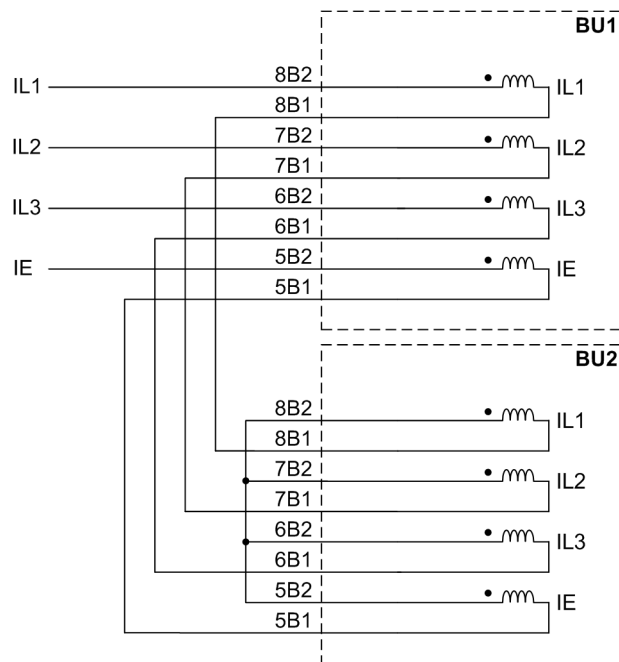

Figure 7-1 Connection of the current inputs of the bay units in bus couplers with only one current transformer.
- ❑ If you have couplers with one transformer, connect the current inputs of the bay units in series per phase (Figure 7-1, page 290).